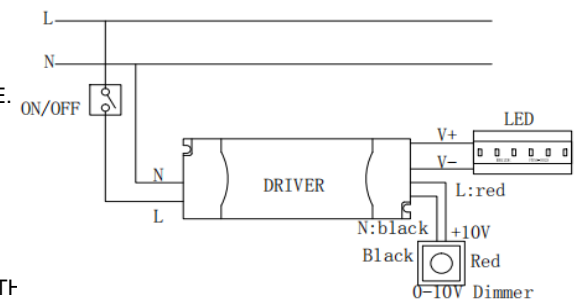

Fig. 1
- 4.SEPARATE THE MOUNTING PLATE(A) FROM THE LAMP BODY(E) BY REMOVING THE 2 SET SCREWS(B)
7. ATTACH THE GROUND WIRE FROM THE FIXTURE TO THE GROUND JUNCTION BOX WIRE FROM THE OUTLET (USUALLY GREEN OR BARE WIRE). FASTEN EACH TOGETHER WITH A PLASTIC WIRE CONNECTOR (E) AND WRAP THE CONNECTION WITH ELECTRICAL TAPE. IF YOUR OUTLET BOX DOES NOT HAVE A GROUND WIRE, INSERT THE GREEN GROUND SCREW INTO THE MOUNTING PLATE (A) FACING DOWN, AND WRAP THE FIXTURE'S BARE GROUND WIRE AROUND THE GROUND SCREW.IT IS IMPERATIVE THAT THE OUTLET BOX IN YOUR HOME BE PROPERLY GROUNDED.
- 8.CONNECT THE NEUTRAL FIXTURE WIRE TO THE NEUTRAL JUNCTION BOX WIRE (USUALLY WHITE). FASTEN EACH TOGETH WITH A WIRE CONNECTOR (E) AND WRAP THE CONNECTION WITH ELECTRICAL TAPE. BE SURE NO STRANDS ARE EXPOSED.
- 9.CONNECT THE HOT FIXTURE WIRE TO THE HOT JUNCTION BOX WIRE (USUALLY BLACK). FASTEN EACH TOGETHER WITH A PLASTIC WIRE CONNECTOR (E) AND WRAP THE CONNECTION WITH ELECTRICAL TAPE. BE SURE NO WIRE STRANDS ARE EXPOSED. **DO NOT REVERSE THE HOT AND NEUTRAL CONNECTIONS OR SAFETY WILL BE COMPROMISED.**
- 10.**CONNECT THE RED WIRE(L) AND THE BLACK WIRE(N) TO THE DIMMER SWITCH AS SHOWN IN Fig 1. AND PLEASE TAKE NOTE THAT USE 0-10V DIMMER SWITCH.BE SURE NO STRANDS ARE EXPOSED.**
- 12.ATTACH THE MOUNTING PLATE(A) ONTO THE WALL J-BOX USING THE ENCLOSED MOUNTING SCREWS(J) AND TIGHTEN SCREWS WITH A SCREWDRIVER.
- 13.POSITION THE BACK PLATE OVER THE MOUNTING PLATE(A) ,SECURE THE BACK PLATE BY TIGHTENING 4 SET SCREWS (B)